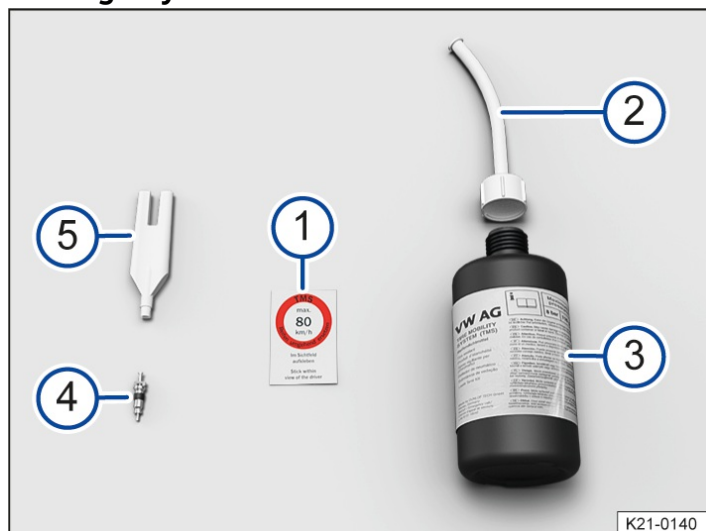

Fig. 1 Contents of the breakdown set (illustration).
- ① Sticker with the maximum permitted speed "max. 80 km/h" or "max. 50 mph".
- ② Tyre sealant tube with plug.
- ③ Tyre filler bottle.
- ④ Spare valve core.
- ⑤ Valve core extractor.
**i** There is a slot for the valve core on the lower end of the valve core extractor → Fig. 1 ⑤. This is required for extracting the valve core from the tyre valve and then screwing it back into the valve again. This also applies to the spare valve core ④.
1. Take the sticker from the breakdown set → Fig. 1 ① and stick it on the dash panel within the driver's field of vision.
3. Use the valve core extractor → Fig. 1 ⑤ to unscrew the valve core from the tyre valve. Place the core on a clean surface.
4. Shake the tyre filler bottle → Fig. 1 ③ vigorously to and fro several times.
5. Screw the tyre sealant tube → Fig. 1 ② tightly onto the tyre filler bottle in a clockwise direction. The seal on the top of the bottle is pierced when doing so.
6. Remove the plug from the filler hose → Fig. 1 ② and place the open end fully on the tyre valve.
9. Use the valve core extractor → Fig. 1 ⑤ to screw the valve core back into the tyre valve.